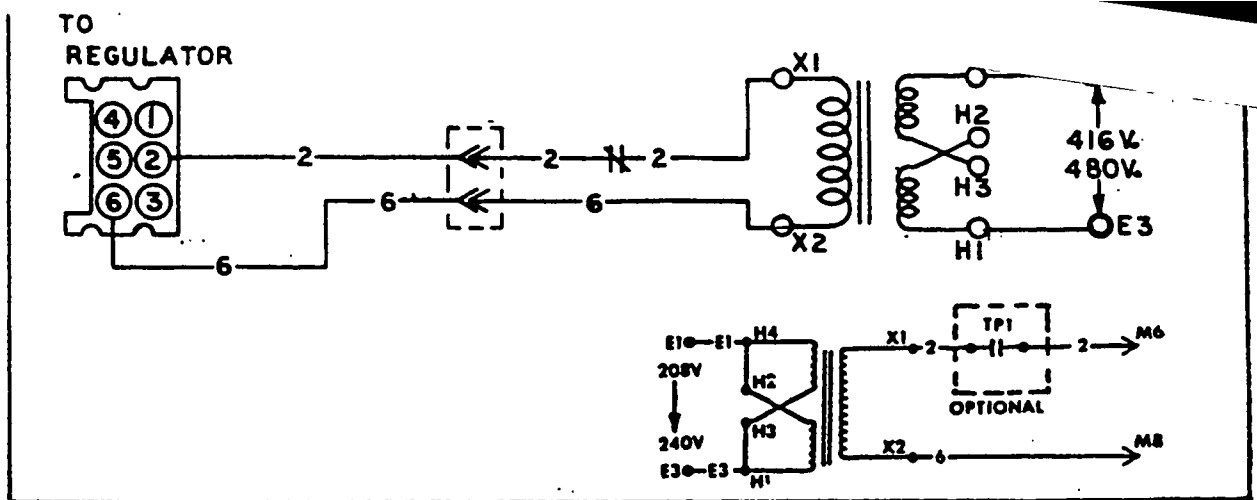

Figure 7.2-B. Generator Excitation Circuit
**7.2.7- CHECK EXCITATION CIRCUIT WIRING** (Figure 7.2-B)